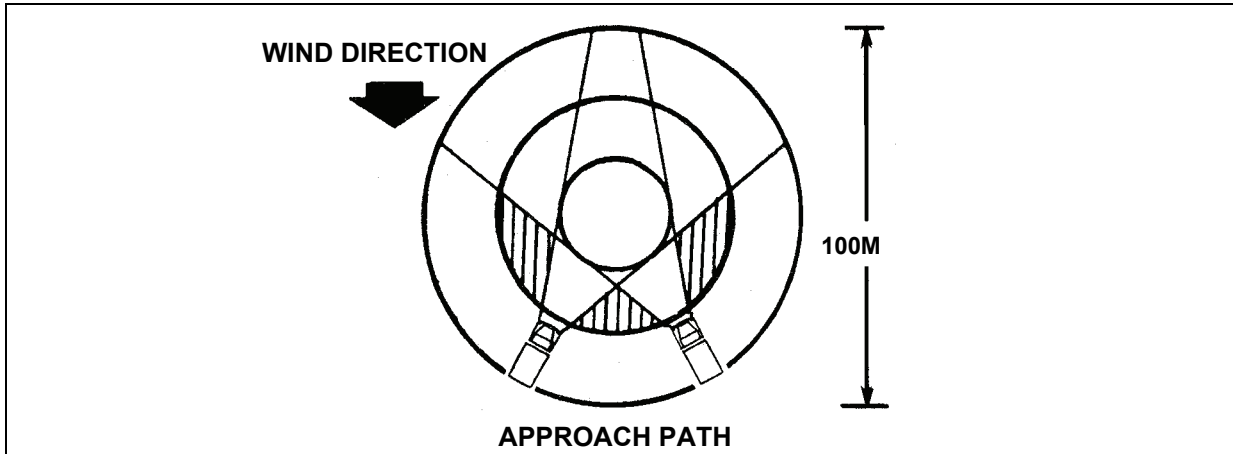

Figure 4-14. Emergency Lighting Pattern
- Emergency Lighting.** During an emergency, various lighting patterns can be used with proper coordination between the aircrew and ground personnel. A common method using vehicles is shown in Figure 4-14. This method should only be used in an emergency because it impairs the pilot's night vision and can disclose the landing site position. Refer to NWP-55-9-ASH for other variations of night landing patterns (USMC).